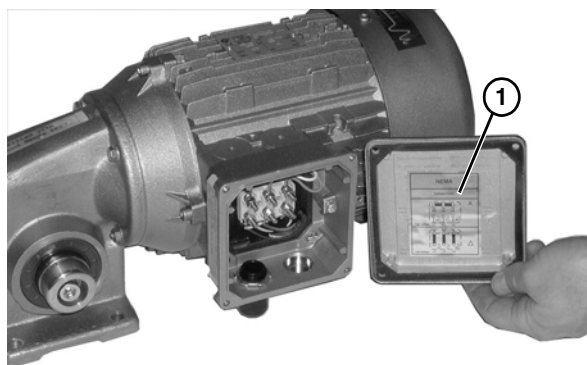

Figure 14
2. Refer to the wiring diagram (**Figure 14, item 1**) on the inside of the junction box cover.